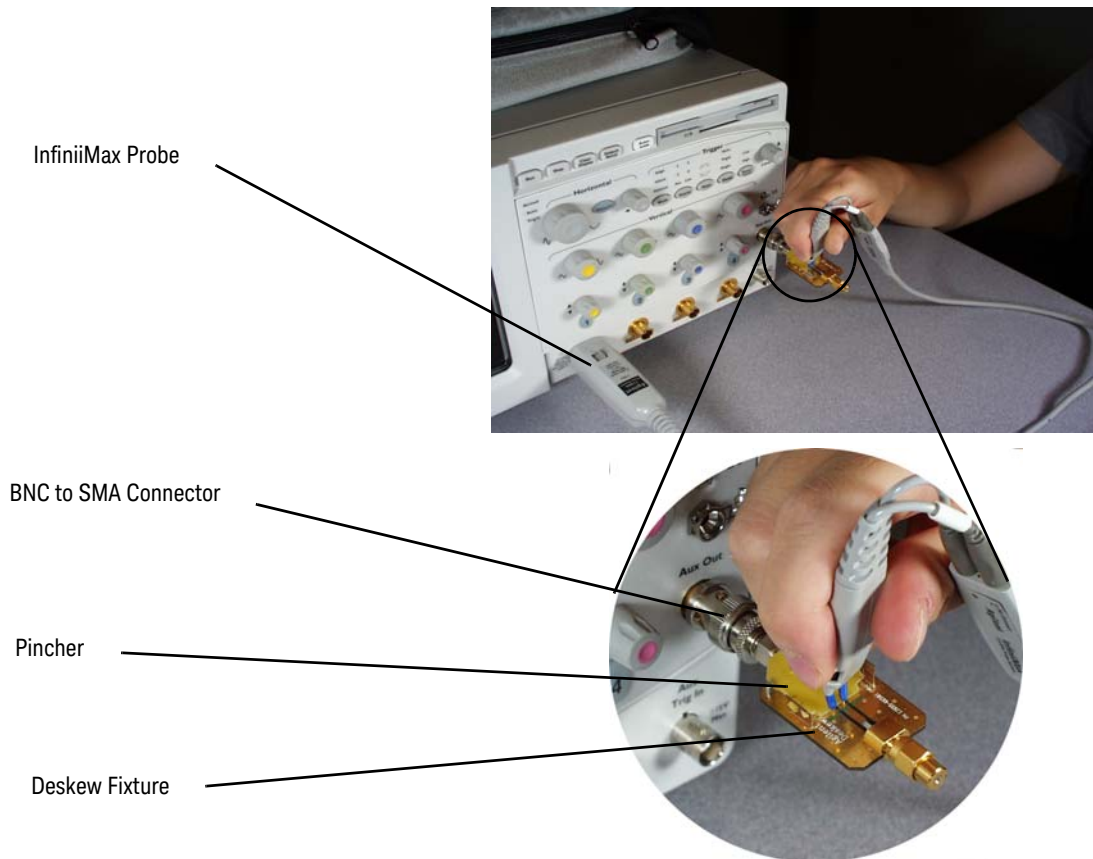

Figure 71 Placing the Probe on the Fixture
- 1 As shown in Figure 71 on page 101, connect BNC (male) to SMA (male) adaptor to the deskew fixture on the connector closest to the yellow pincher.